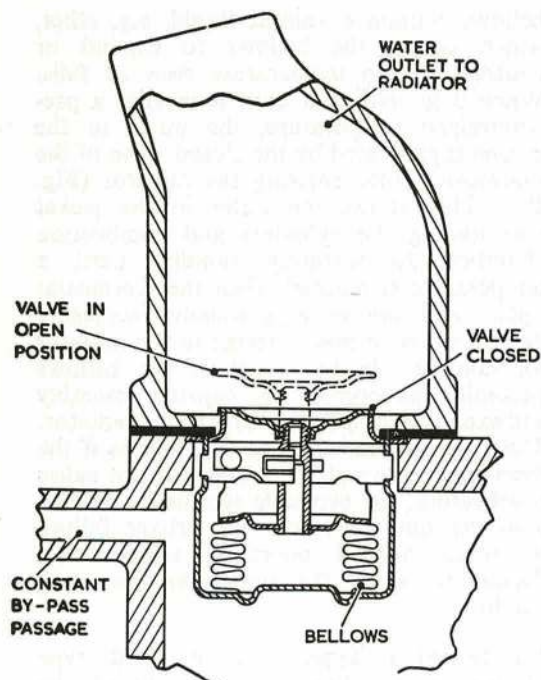

Fig. 11. STANDARD TYPE THERMOSTAT
19. **Standard Type.** The standard type of thermostat (Fig. 11) is intended for fitment in the water outlet passage from the
small diameter seepage holes are drilled in the valve, their purpose being to maintain some circulation past the bellows, and to prevent air locks while the cooling system is being filled. A by-pass passage is also provided on the pressure side of the thermostat, and the passage may be in the thermostat housing as shown in Fig. 11, or in the water pump body. The size of the passage is suitably determined for the particular type of engine, and allows a sufficient flow of water to avoid localized over-heating, but is not so large as to reduce the effectiveness of the thermostat.